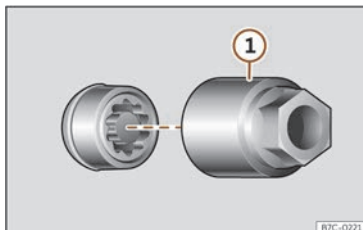

Fig. 210 Anti-theft wheel nut with cap and adapter.
- Insert the special adapter >>> **Fig. 210 ①** (vehicle tools >>> page 300) onto the anti-theft wheel nut and push it on as far as it will go.